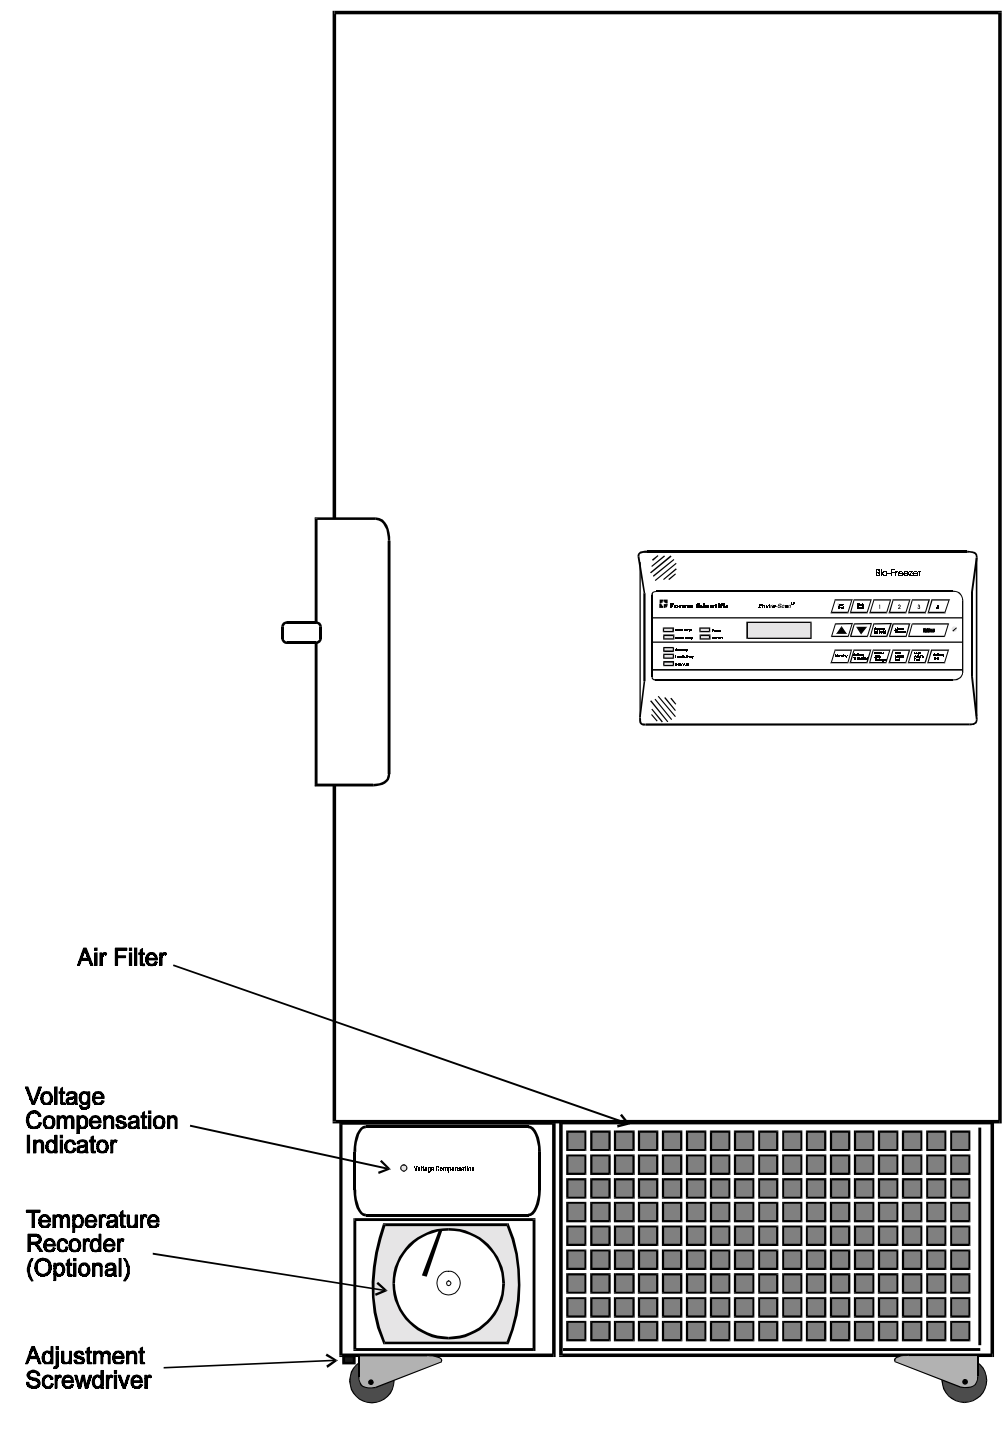

Figure 3-2
Set Point Adjustment Screw located to the right of the ENTER key is used to set the operating temperature of the freezer. An adjustment screwdriver is located under the bottom portion of the freezer base. (See Figure 3-2).
Caution: The user should immediately check the air filter (Figure 3-2) and the condenser for cleanliness and the fan for proper operation. Failure to do so may cause compressor damage and result in loss of product inside freezer. Refer to Section 6.1, "Cleaning the Condenser" and Section 6.2, "Cleaning the Air Filter".
A small screwdriver, located on the bottom left side of the front panel, has been provided for setting the temperature Set Point. To remove the screwdriver from its holder, pull down on the black knob near the left front caster on the freezer frame. Refer to Figure 3-2 for the location of the screwdriver.
A green LED indicating light, labeled "Voltage Compensation", indicates when the system is in operation. The light is located on the front of the compressor section, lower left corner of the freezer cabinet. (See Figure 3-2)
5. With the set point adjustment screwdriver, located on the bottom left side of the freezer base (Refer to Figure 3-2). Adjust the set point screw counterclockwise to a temperature set point of -20° C. The Set Point screw is located to the right of the ENTER key on the Enviro-Scan Monitor.